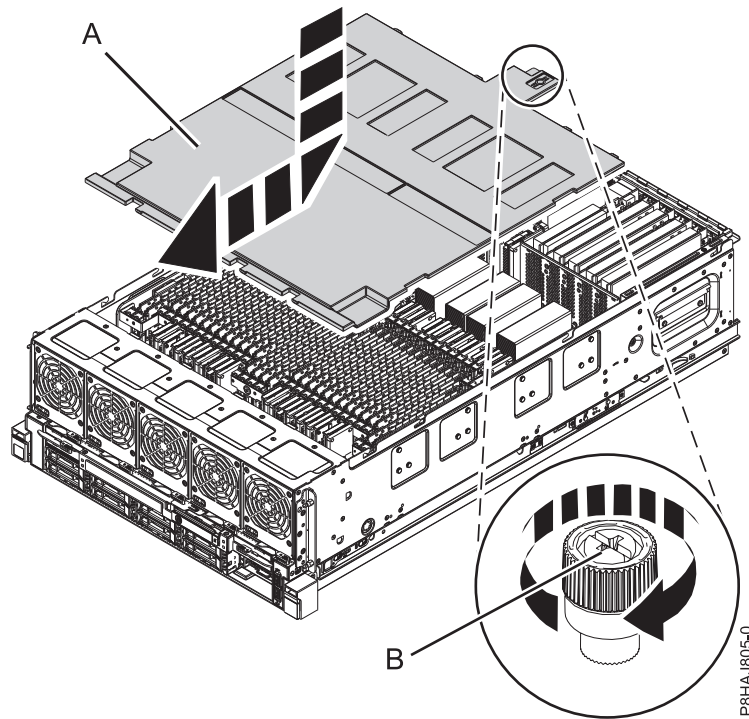

Figure 29. Replacing the safety cover
2. Push the safety cover (A) toward the chassis.
3. Tighten the thumbscrew (B) by turning it in the direction shown in Figure 29 on page 47 to fix the safety cover to the chassis.